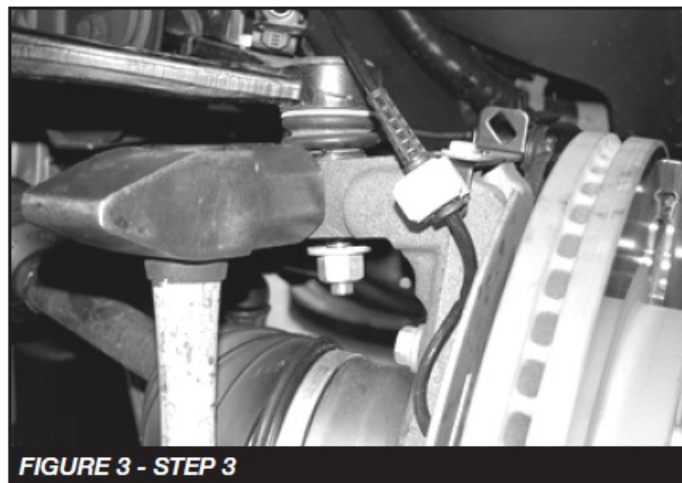

FIGURE 3 - STEP 3
3. Loosen the upper ball joint nut, and strike the knuckle with a hammer till it comes loose from A-Arm. Save all hardware. (Use care not to hit threads.) SEE FIGURE 3